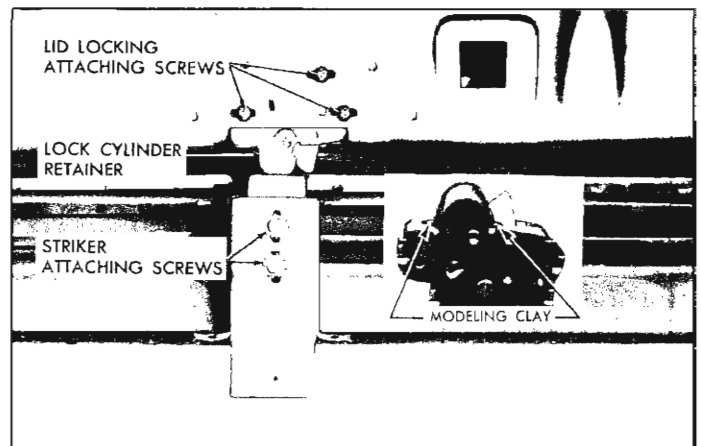

Fig. 35—Rear Compartment Lid Lock and Striker
2. Remove lid lock attaching screws (fig. 35) and remove lock assembly.
2. Remove striker attaching screws (fig. 35) and remove striker.
- a. Insert a small quantity of modeling clay on frame of lock at both sides of the lock bolt (fig. 35). Close lid with moderate force.